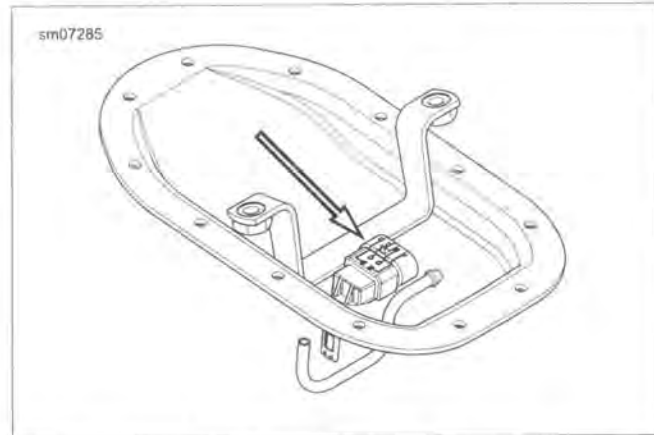

Figure 4-14. Fuel Pump Connector [141] (Typical)
- a. See Figure 4-14. Disconnect the fuel pump module connector from the tank plate.